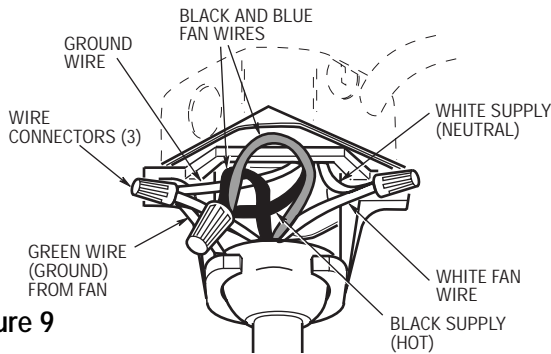

Figure 9
- 2. Connect the fan motor white wire to the supply white (neutral) wire using a wire connector (supplied) (Figure 9). Connect the fan motor black wire and blue wire to the supply black (hot) wire using a wire connector (supplied) (Figure 9). Your fan is now wired to be turned on and off from the fan switch. After connections have been made, turn leads upward and carefully push leads into the outlet box, with the white and green leads on one side of the outlet box and the black and blue leads on the other side of the outlet box.